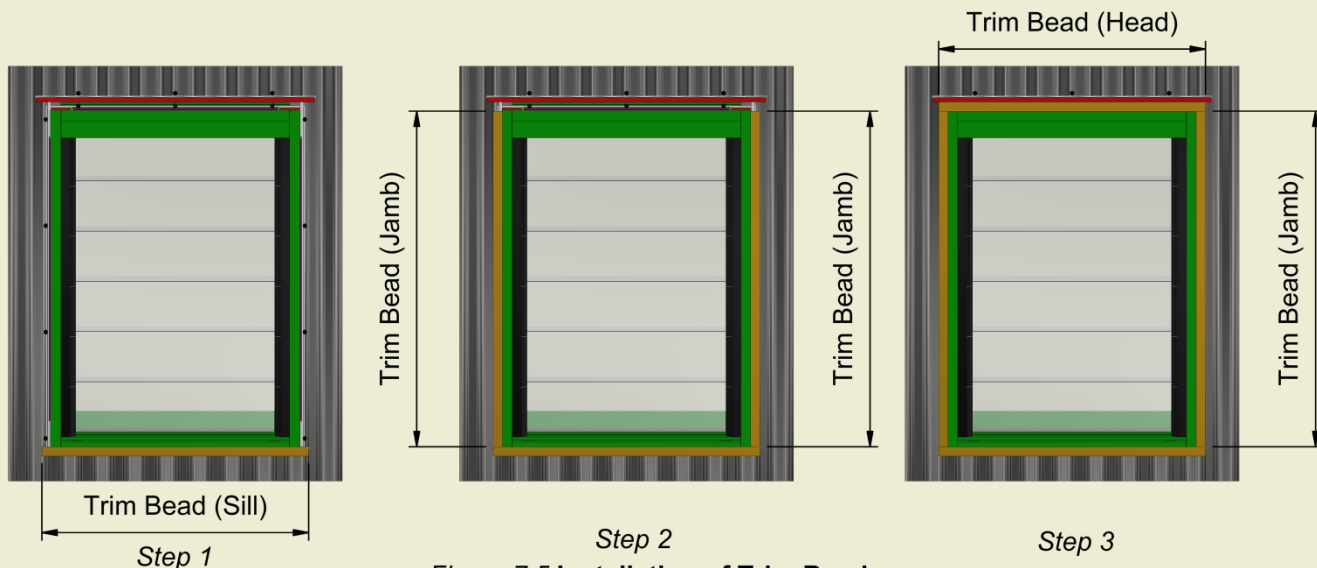
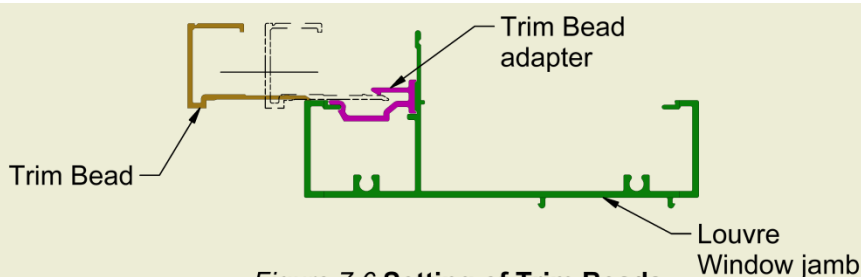

Figure 7.5 Installation of Trim Beads
Figure 7.6 Setting of Trim Beads
- Align the **sill** Trim Bead first making it equidistant past the edge of the Louvre Window jambs on both ends as shown in **Step 1** of **Figure 7.5**. Guide the longer leg of the bead between the locating leg on the fin and the external of the framing. Push firmly, beginning at one end, until a "snap" sound is heard as shown in **Figure 7.6**. This is the positive engagement of the Trim Bead locking into position and it resting on the external face of the Louvre Window frame. If the trim bead is resting against the Louvre Window frame, it is correctly installed.
- Next install the two vertical jamb Trim Beads in the Louvre Window jambs as shown in **Step 2** of **Figure 7.5**. Check the alignment of the Trim Beads and if they are not correctly aligned, they can be "tapped" left or right using a nylon mallet or timber block – tap until correct alignment is achieved.
- And finally clip in the **head** Trim Bead in the Louvre Window head as shown in **Step 3** of **Figure 7.5**.